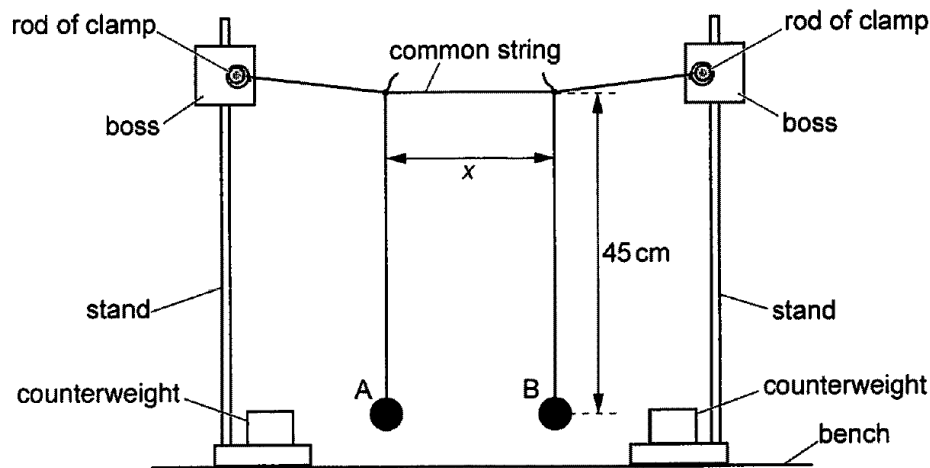

Fig. 3.2
- (a) (i)** Set up two pendulums A and B as shown in Figure 3.2. Place the loops of the common string on the rods of the clamps. The distance x between the pendulum strings is shown.
- (d) For the arrangement shown in Figure 3.2, adjust the positions of the pendulums to make x equal to the value chosen in (c).